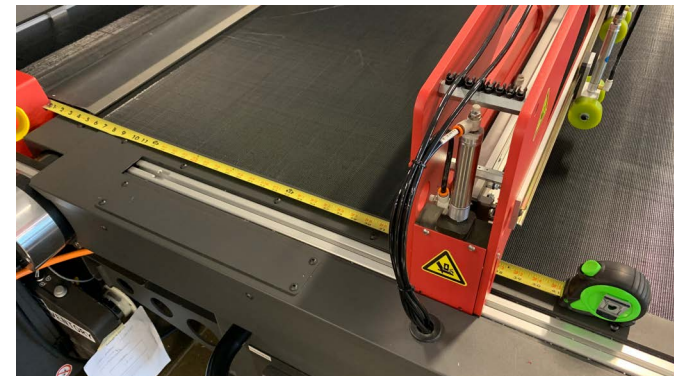

Figure 4-3 Measure to Staging Unit
4. Measure from the edge of the 3/4 loader frame to the edge of the staging unit (Figure 4-3).